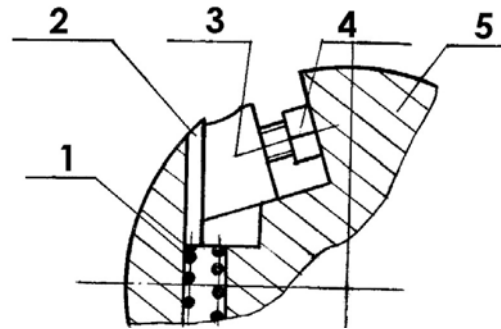

Fig. 11: Change knife
Step 2: Loosen the screws (4, Fig.11). The force of the spring (1, fig.11) will automatically push the blade (2, fig.11) out.
Step 4: Insert the new knife with the five screws (4, fig.11) so that its surface above the cutter head is max. 1.1 mm. The manufacturer recommends a height of 0.7 to 0.8 mm.